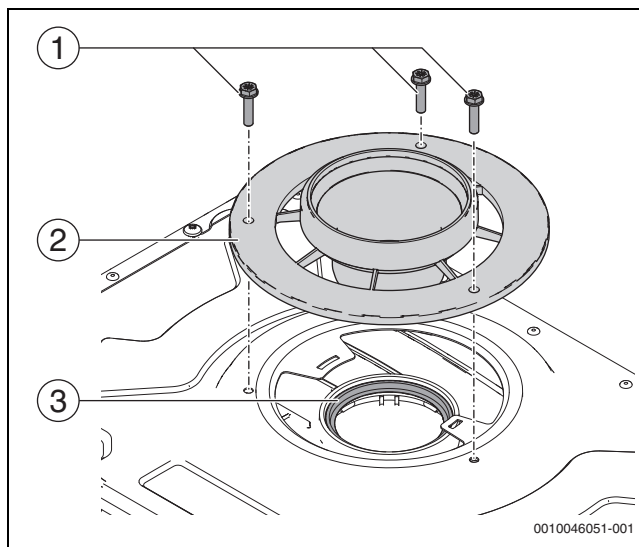

Fig. 168 Disassembly of the flue adaptor and the flue kit
- Place the flue adaptor and the flue kit on the top panel (→ Figure 168, [2]).
- Tighten three screws (pozi or hexagon) (→ Figure 168, [1]). Do not over-tighten.